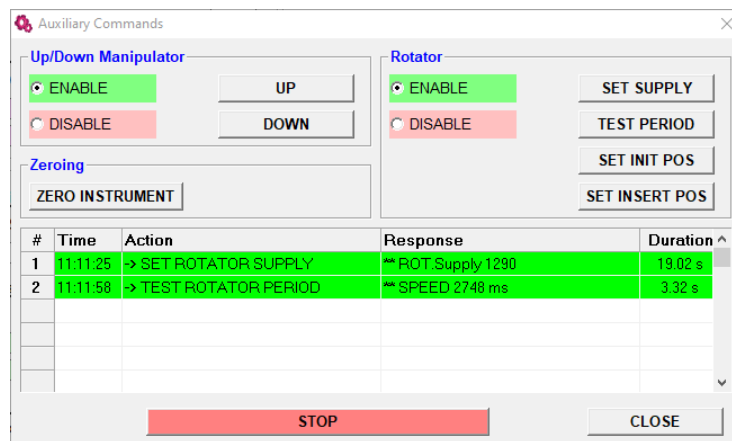

Figure 15: Auxiliary commands
2. From upper menu select *Execute > Auxiliary commands* and check the ROTATOR SUPPLY using button *Set supply* in Figure 15.